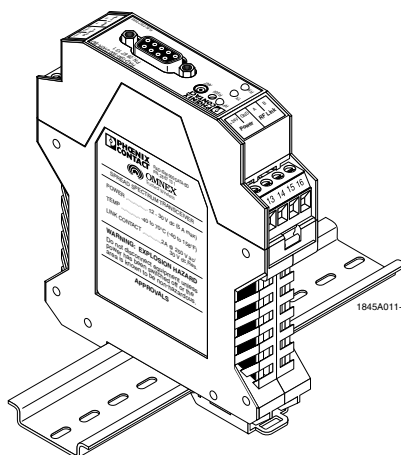

Figure 1-2. RAD-ISM-900-DATA-BD Data Radio
1.2.2 RAD-ISM-900-DATA-BD (See Figure 1-2)